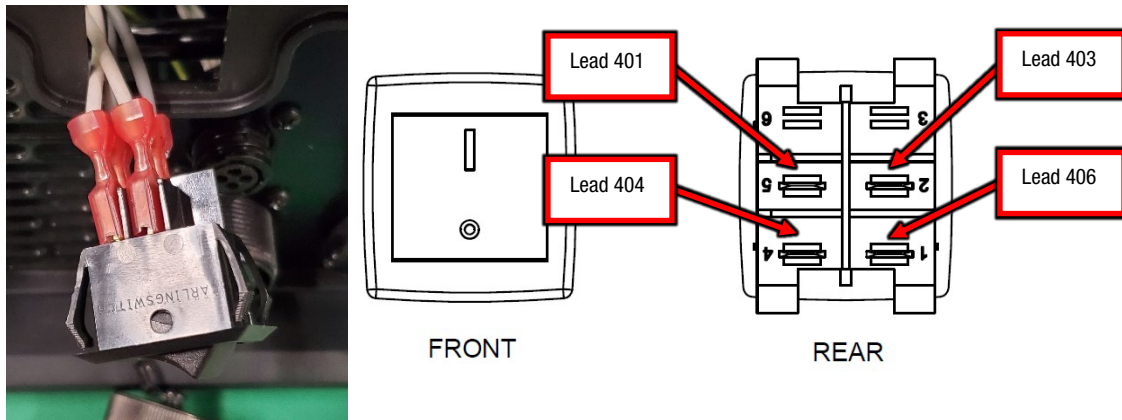

Figure F.2
A.2. Label and disconnect the following connections, refer to Figure F.2..